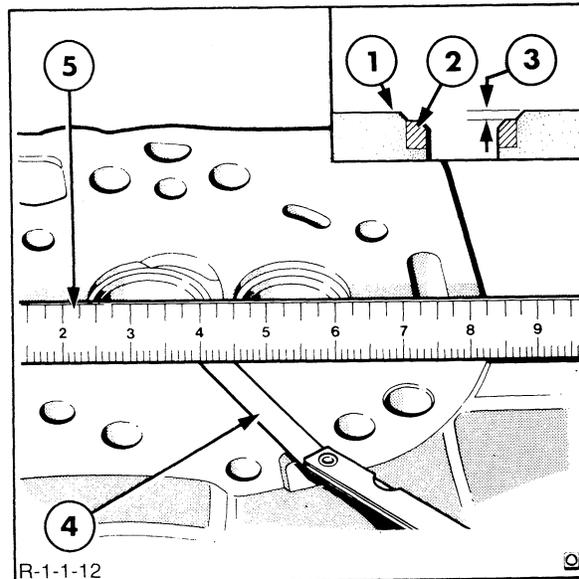
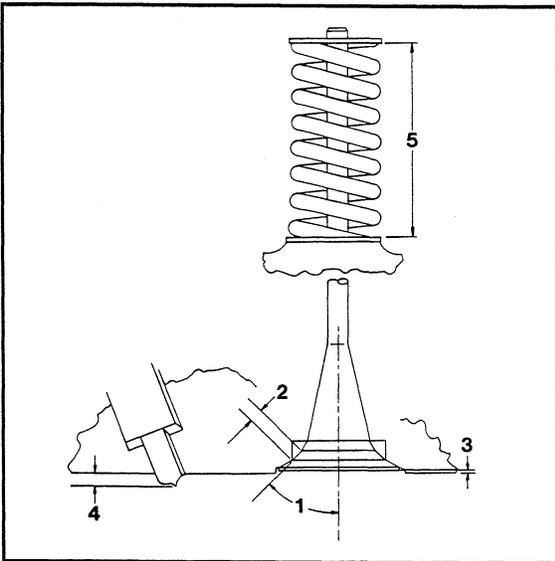

FIGURE 1-13
FIGURE 1-14
3. Use a straightedge and feeler gauges to check the flatness of the cylinder head in all directions, Figure 1-13. For flatness requirement use a specification of 0.003" (0.08 mm) in any 6" (152 mm) or 0.006" (0.15 mm) overall limit.
NOTE: If the cylinder head exceeds the flatness specification it may be resurfaced, providing the depth from the lower face of the valve insert to the cylinder head face is not less than 0.117" (2.97 mm), see inset of Figure 1-13.
3. Check the width of the valve seat inserts and, if necessary, reface by grinding to the dimensions shown in Figure 1-14.
5. Using a seat cutter with the correct angle, Figure 1-13, remove only enough stock from the seat to clean up the pits and grooves. After refacing, the seat width must be within the specified limit, Figure 1-14.
7. Rotate a new or refaced valve lightly in the seat, using Prussian Blue. If the blue is transferred to the valve face, the specified distance (valve head recession) below the upper edge of the valve face, Figure 1-14, the contact is satisfactory. If the blue is transferred to the valve face above or below this point, raise or lower the seat as follows: